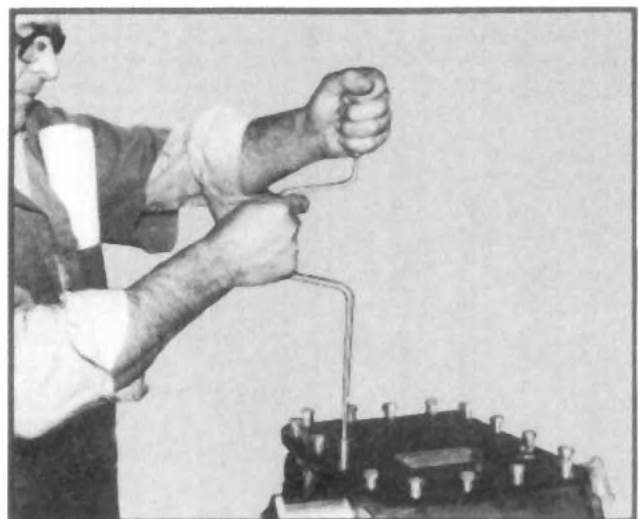

Fig. 1
1. Remove bolts and lockwashers from cover plate. Tap cover plate to loosen and remove (See fig. 1).